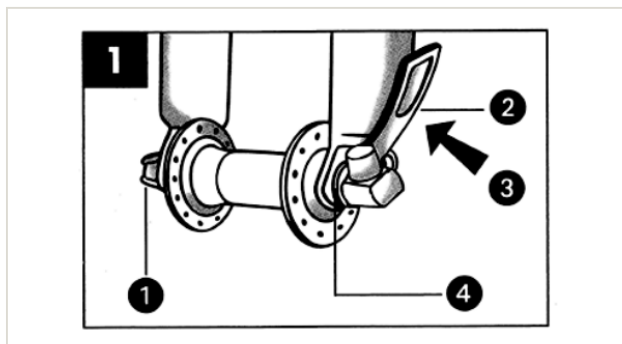

Fig. 1 Quick release closed: 1 adjusting cone · 2 quick-release lever · 3 closed · 4 safety washer
It contains the information you need to assemble, adjust, use and maintain the bicycle safely. The illustrations (Fig. 1 to 26) appear next to the relevant text and apply to all language versions in this booklet. Depending on the specification, some of the components described may not be fitted to your bicycle.
1. Are both wheels correctly and firmly fitted? Check the quick releases or axle nuts (Fig. 1–3).